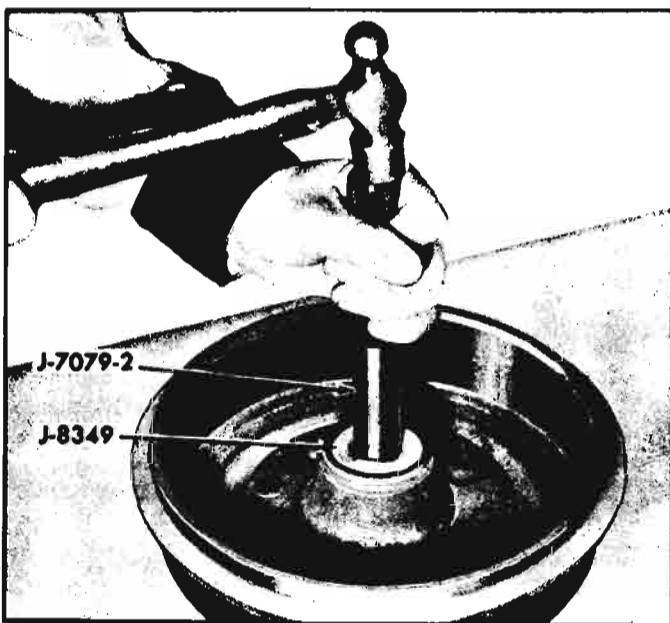

Fig. 3-7—Installing Front Hub Inner Bearing
race. Tool J-7079-2 (Driver Handle) must be used with the above installers (fig. 3-7).
7. Install bearing cup into hub using Tool J-8351 for the outer race and Tool J-8349 for the inner race (fig. 3-7).